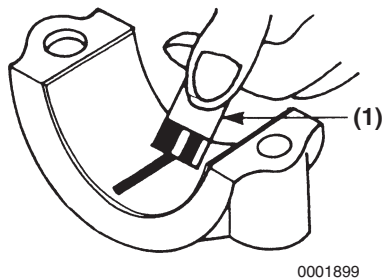

Figure 6-99
- (f) Compare the width of the flattened PLASTIGAGE to the graduation marks on the package (**Figure 6-99, (1)**). The mark that most closely matches the width of the flattened PLASTIGAGE will indicate the bearing oil clearance.